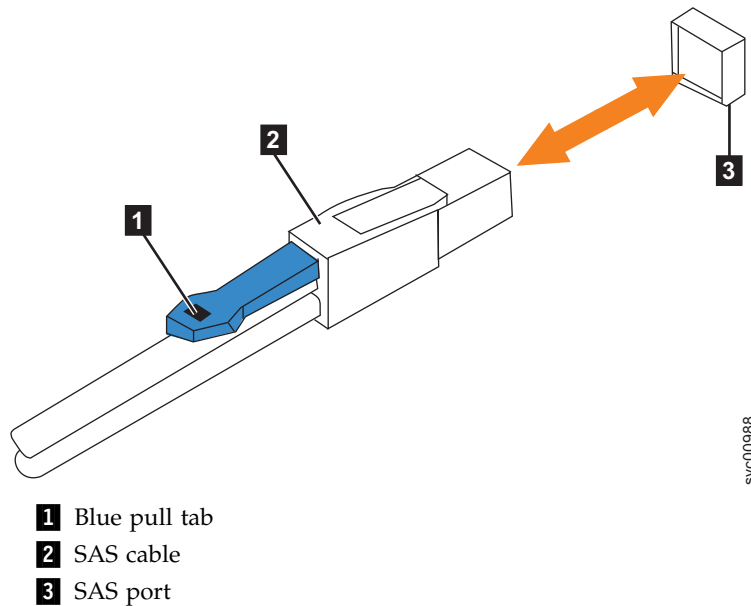

Figure 78. Correct orientation for SAS cable connectors
5. Ensure that the SAS connector is oriented correctly, as shown in Figure 78. The blue tab must face towards the top of the enclosure canister.